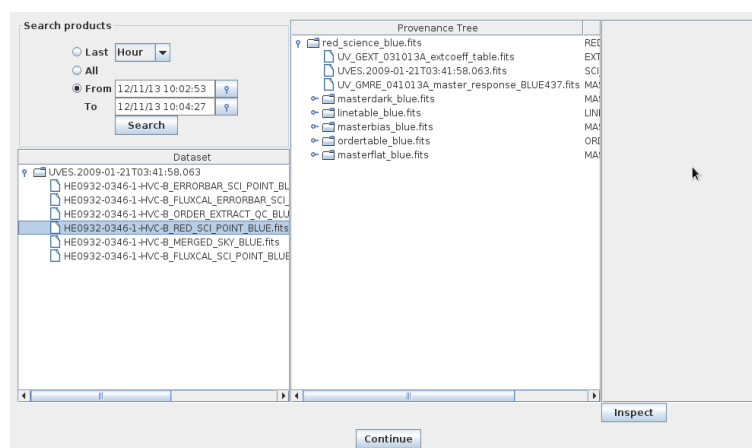

Figure 4.5: The Provenance Explorer shows all datasets reduced in previous executions together with the full reduction chain for all the pipeline products.
- When the reduction of the current DataSet finishes, a pop-up window called *Product Explorer* will appear showing the datasets which have been so far reduced together with the list of final products. This actor allows the user to inspect the final data products, as well as to search and inspect the input data used to create any of the products of the workflow. Figure 4.5 shows the Product Explorer window.